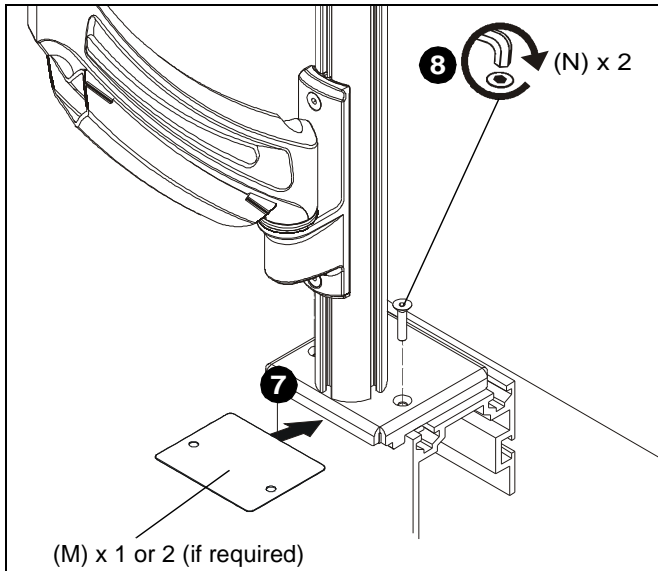

Figure 9
**NOTE:** If mount leans forward after installation, install one or two shims (M) in between mount base and rail as shown in the following steps.
**IMPORTANT !** : Do NOT install one or both shims (M) unless required as damage to the FrameOne™ rail may result!
6. Remove two #10-32 x 7/8" flat head cap screws (N) holding mount base to channel plate (L).
7. Slide one or two shims (M) in between mount base and rail, lining up holes on shim(s) with holes on plate and rail. (See Figure 9)
8. Use two #10-32 x 7/8" flat head cap screws (N) to reinstall mount base to channel plate (L). (See Figure 9)